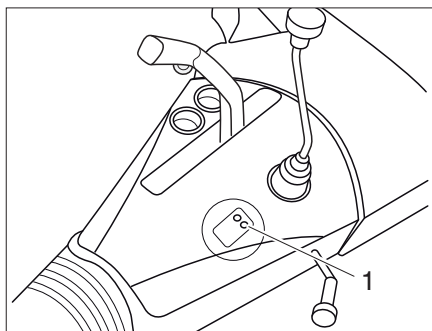

Fig. 3 LED of the ATC (AL-KO Trailer Control)
A self-test is carried out, the LED (Fig. 3,1) lights up red.
- After the self-test the LED (Fig. 3,1) lights up green, the ATC is active.